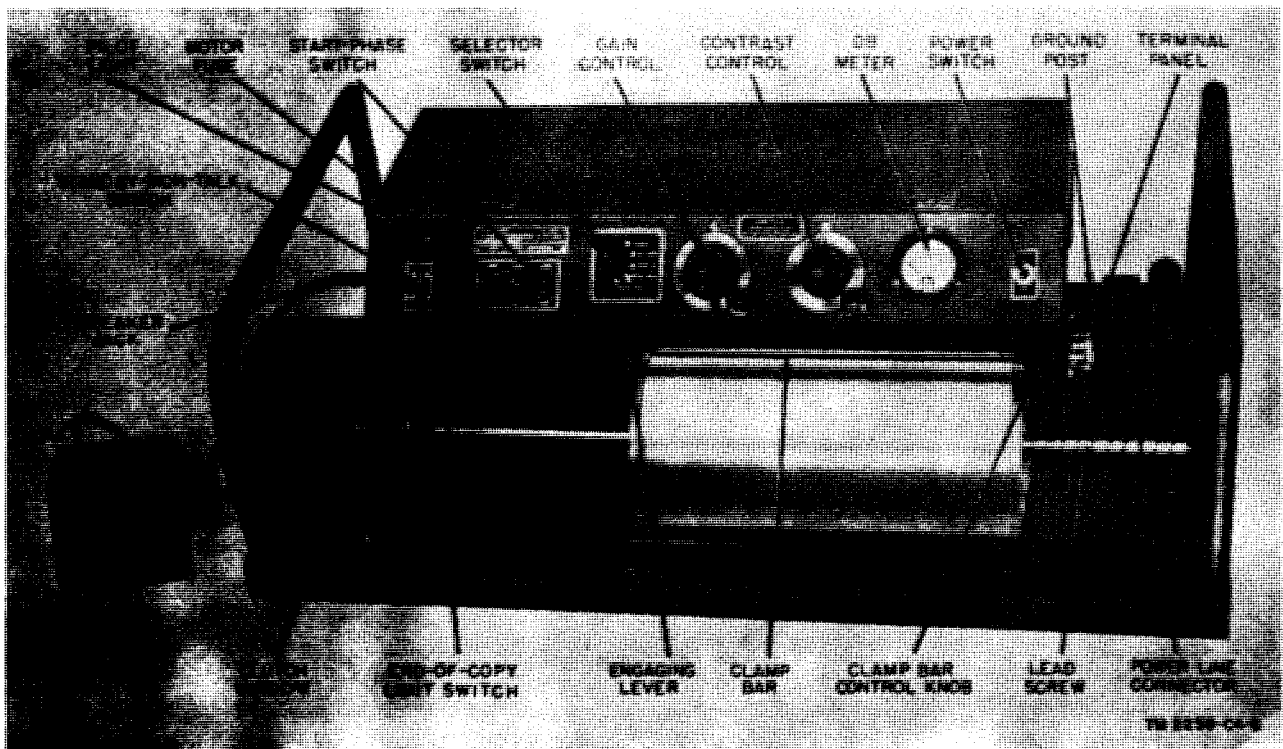

Figure 16. Controls, facsimile transceiver TT-1F/TXC-1.
- (2) The drum engaging lever (fig. 16) is located on the left side of the drum. It is used to engage the half nuts on the rotating drum with the lead screw,
c. End-of-copy Limit Switch (S8). A pressure-sensitive switch is mounted on the left-hand bearing block of Facsimile Transceiver TT-1F/TXC-1 (fig. 16). The drum, in its extreme left-hand excursion, will actuate this switch. This causes power to be removed from the synchronous drive motor and the amplified facsimile signal will